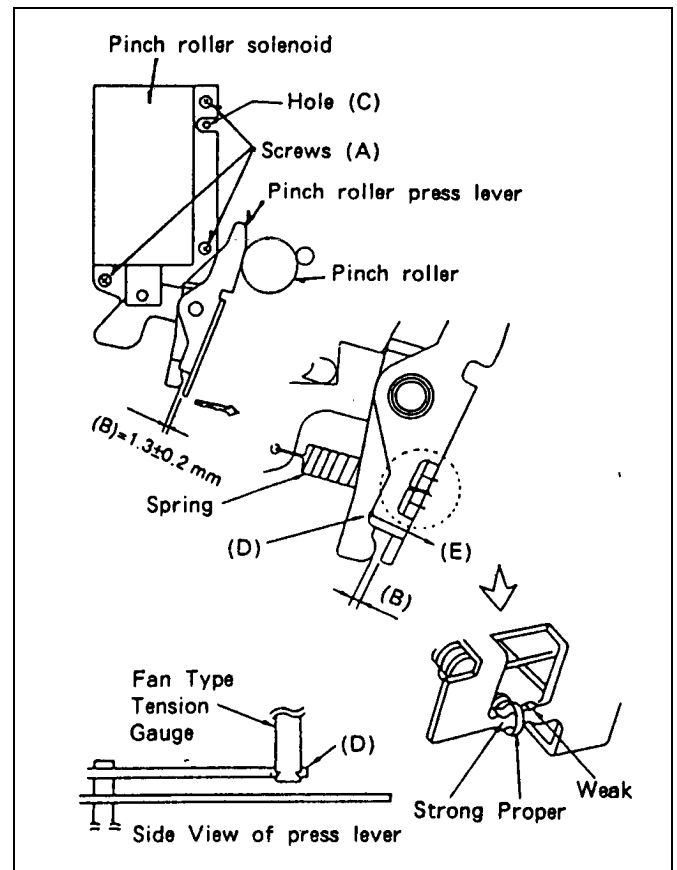

Figure 7-11-5 Pinch Solenoid Adjustment
5. Confirm that clearance (B), which is shown in figure 7-11-5, is $1.3\text{mm} \pm 2\text{mm}$.
6. If not, loosen 3 screws (A) as shown in figure 7-11-5 and insert eccentric screwdriver (VFK0358) into hole (C).
7. Adjust Pinch roller solenoid position with eccentric screwdriver (VFK0358) so that the clearance (B) is $1.3\text{mm} (\pm 0.2\text{mm})$.
8. Tighten 3 screws (A).
9. Insert a 1.2mm thickness gauge to clearance (B).
10. Place fan type tension gauge (VFK66) so that its tip contacts the position (D) as shown in figure 7-11-5.
11. Push tension gauge in the direction indicated by arrow (E) in figure 7-11-5.
13. If it is not, change the position of spring as shown in figure 7-11-5.